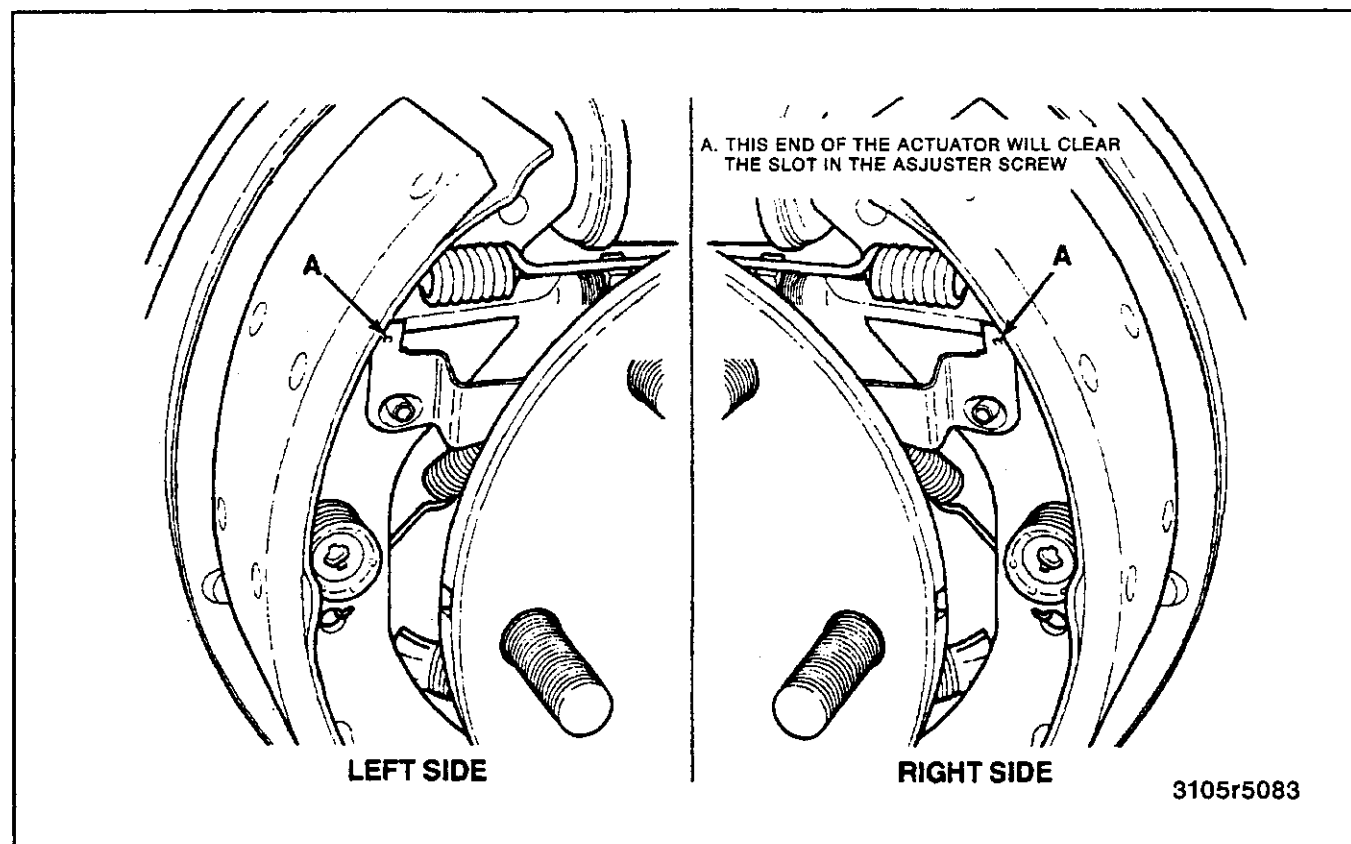

Figure 3—Removing the Adjuster Actuator
8. Lower return spring (4).
9. Hold-down pins (6) and spring assemblies (5).
10. Adjuster actuator (3) over the end of the adjuster pin (28) so the top leg engages the notch in the adjuster screw (figure 3).